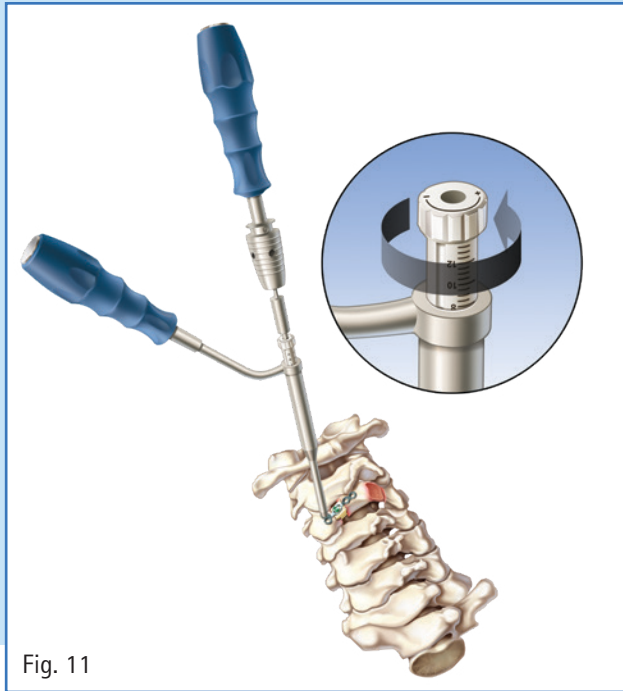

Fig. 11
- C. An alternative drill and drill guide with an integrated depth stop is provided (Fig. 11).